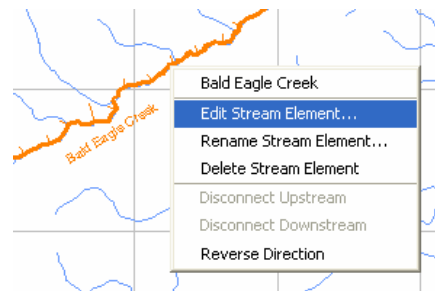
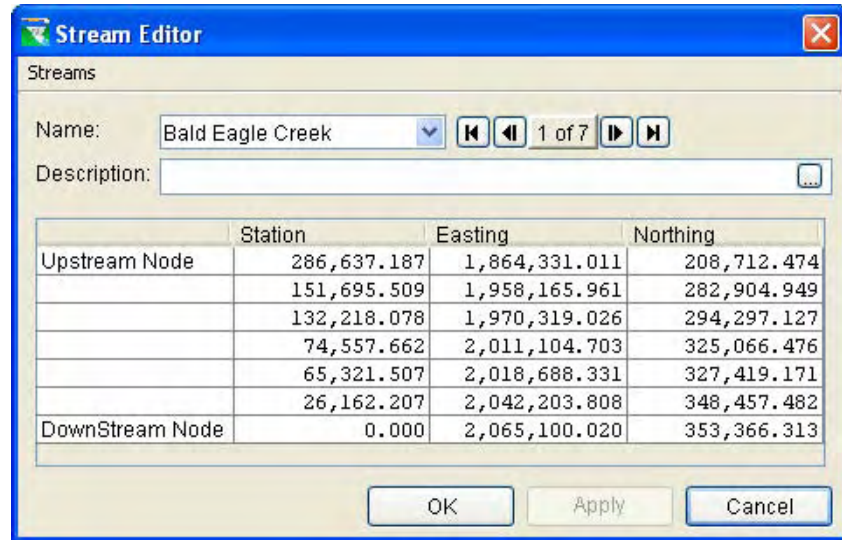

Figure 5.11 Stream Alignment Shortcut Menu
Figure 5.12 Stream Editor
3. From the shortcut menu (Figure 5.11), select **Edit Stream Element** to open the **Stream Editor** (Figure 5.12).